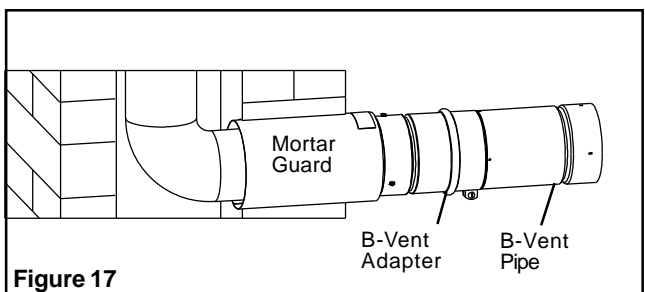

Figure 17
4. Engage the type B vent pipe with the universal B vent adapter. Once fully engaged, tighten the machine screw so that the adapter clamps down and secures the B vent pipe in place (see Figure 17).